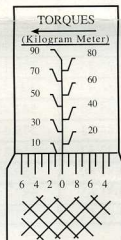

FIG. 1
3. The wrench is now set at 76 ft. lbs. torque and is ready to use See Figs. 1 and 2.